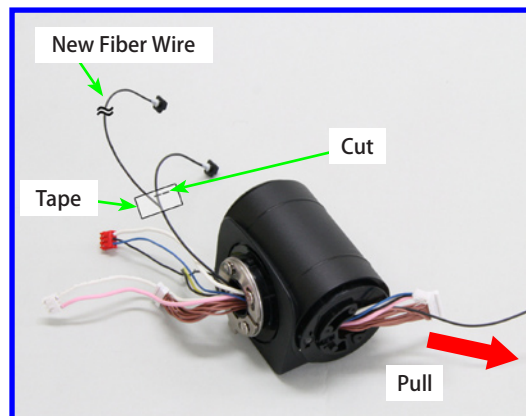

Fig. 033 Replacing the Fiber Wire 1
- ① Cut the existing Fiber Wire close to the connector.
- ② Connect the end of the new Fiber Wire to the remaining wire with tape. (Fig. 033)